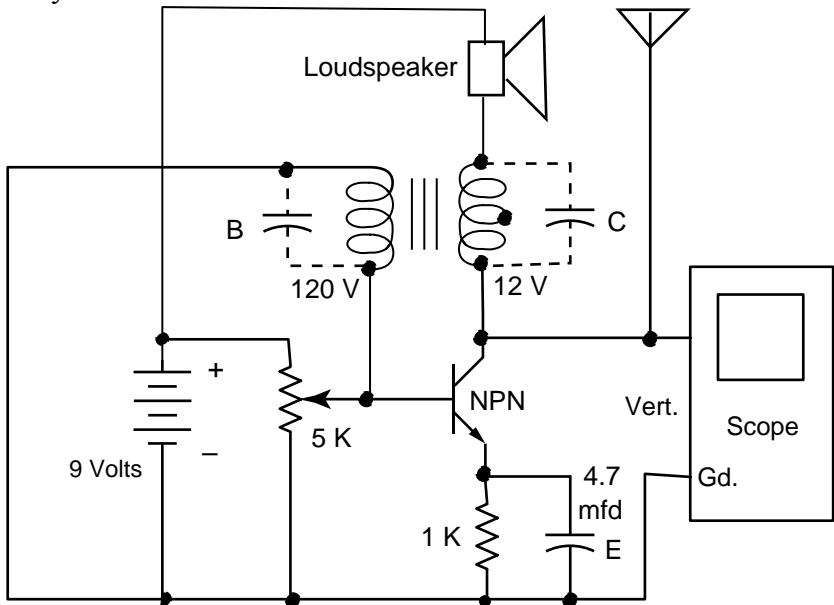

Fig. 16.2 Armstrong oscillator.
Another way to get positive feedback is to use a transformer, as in Fig. 16.2, to send a signal from the collector, back to the base, in the proper phase for positive reinforcement. This was invented by Edwin H. Armstrong, one of the greatest electronics inventors of all time. (He developed FM radio and also invented the "superheterodyne" principle, which is used in almost all radio and TV receivers in the world.) The idea was originally applied to amplifiers, not oscillators, because it very much increases the amplification factor, due to the positive feedback. The more it amplifies, the more it amplifies further, which can lead to amplification factors of a thousand, limited only by the output capability of the transistor. (This and also negative feedback in amplifiers will be discussed further in Chapter 23.) If the amplification is high enough to overcome resistance of the wires, *continuous oscillations* will be generated, instead of just a one-time amplification of some external signal.
When assembling the circuit in Fig. 16.2, a pair of 4.7 mfd capacitors are put in the collector and emitter positions, C and E, but none is in the optional base position labeled B. The antenna (radio aerial), indicated as a triangle, is not attached initially.
Another way to make a blocking oscillator (which we are only going to discuss but not actually make, unless the reader wishes to "hack around" with some optional trial circuits) is to purposely reverse the yellow wires of an Armstrong oscillator to get *negative* feedback. Then suddenly attaching the battery can make a single pulse appear on the scope, but no more will occur. The size of the capacitor, in either the base tank circuit of Fig. 16.2 (B) or the collector tank (C) will control the length of that single pulse. These designs are often used for pulse generation in electronics, usually with a variety of other resistors and capacitors to fine-tune the characteristics.